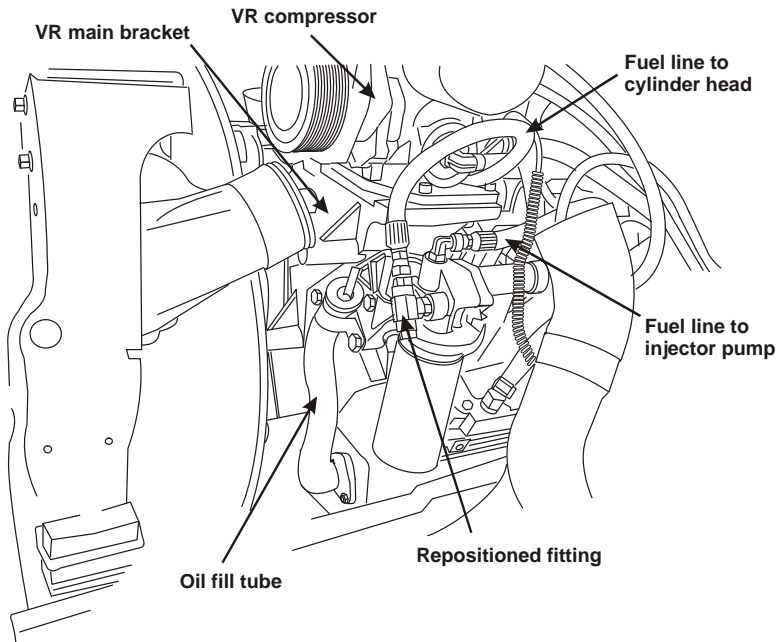

Figure 3.7
- Mount the fuel filter assembly to the front of the main bracket using two M10 x 50 mm bolts in the upper location, one M10 x 30 mm bolt to the lower inner location and one M10 x 60 to the lower outer location. (Figure 3.7). Mount the oil fill tube in place at the same time with the supplied spacer. Make sure that you use a flat-head bolt next to the oil fill tube so that the cover on the tube can be easily removed.